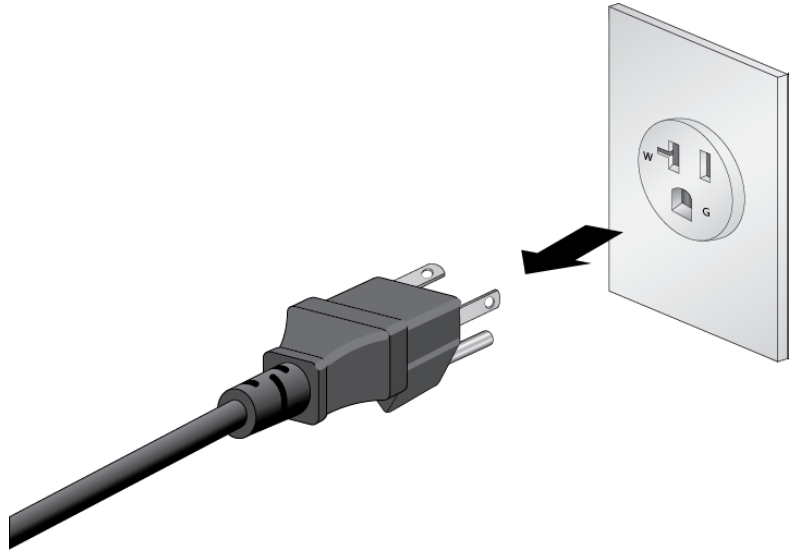

Figure 92. Disconnecting the AC Power Cord from the Power Source
1. Disconnect the AC power cord for the power supply from the AC power source. Refer to Figure 92 on page 131.